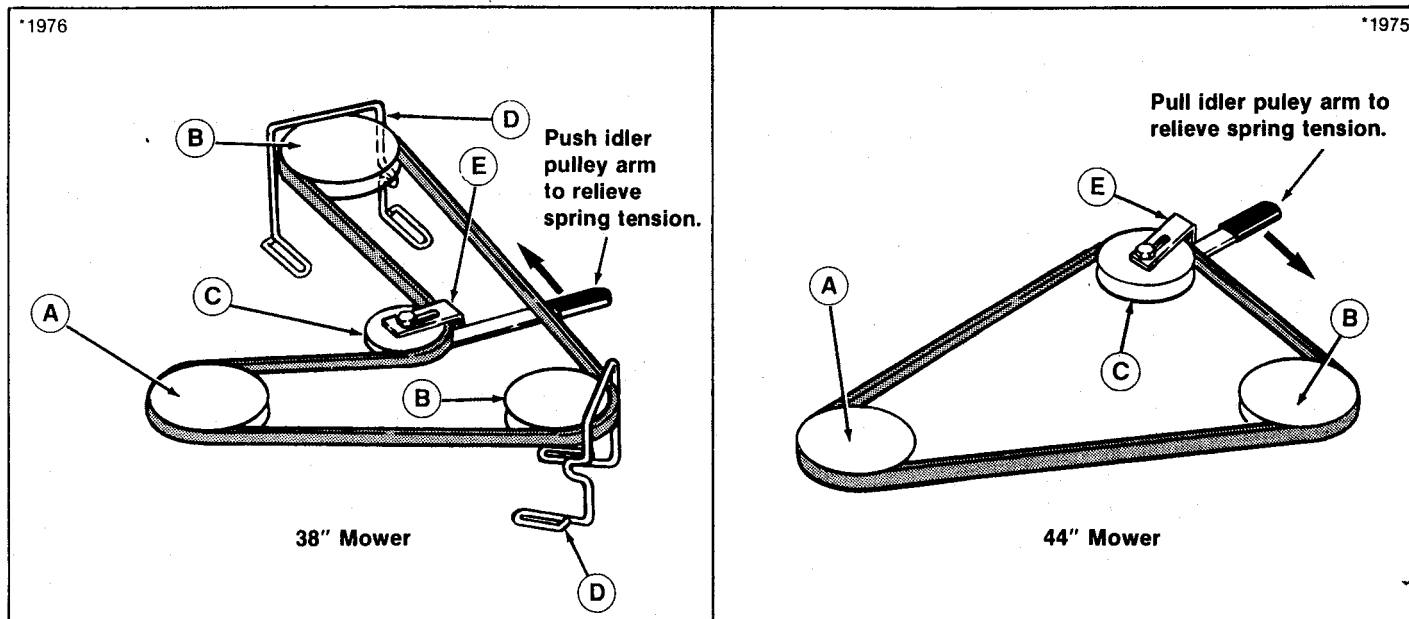

Figure 19. Mower Drive Belt Pattern
7. To install mower, reverse above steps. Check mower belt pattern as shown in figure 19.